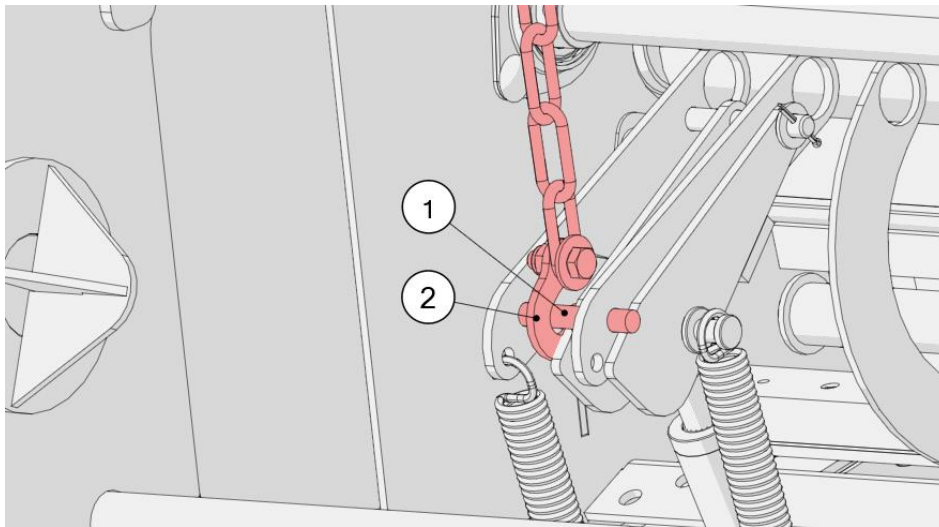

Figure 10. Protection device for the blade for cutting the net
To lock the net cutting blade, open the top cover, engage the chain hook (2) with the pin (1) as shown in Figure 10.